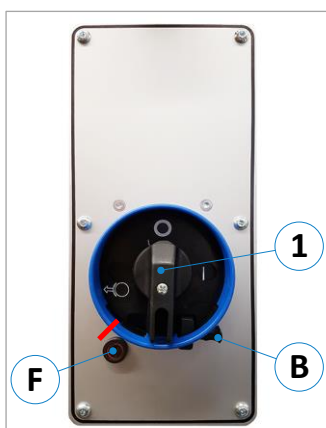

Figure 16: Machine switch (2.2 kW)
- Turn rotary switch (1) to position “O”.
- Turn the locking latch (B) to the left (see red marked position in ⇒ Figure 16).
- Turn the rotary switch (1) all the way to the left